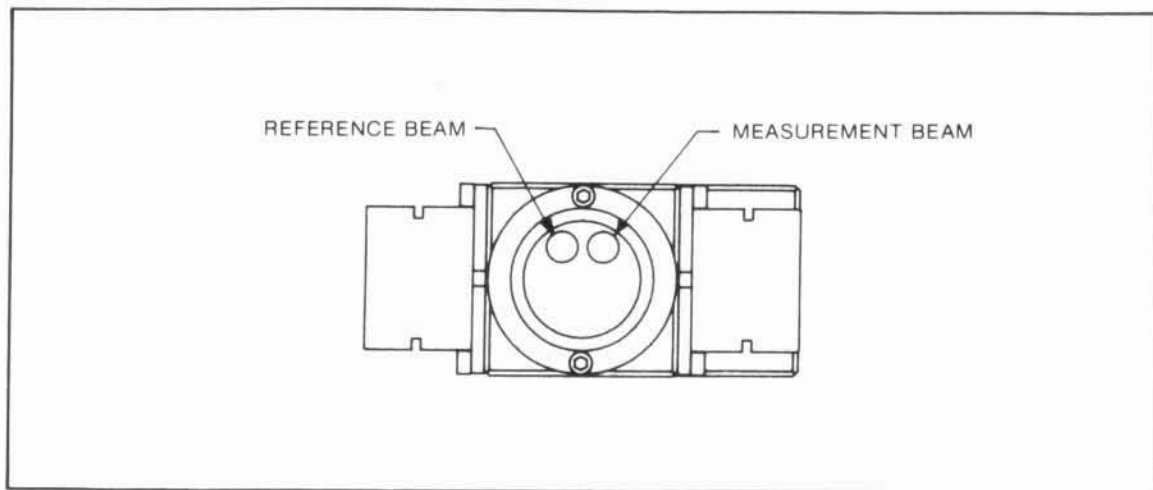

Figure 6-37. Differential Interferometer as Viewed from Plane Mirrors
- f. Once the autoreflection alignment of the interferometer is complete, remove the gage block and select the large aperture on the laser head. Two parallel unclipped beams should now leave the interferometer. (See Figure 6-37.)